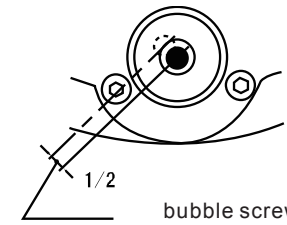

Fig.11
- (II) Using wrench adjust bubble screws to move the bubble to centre. (Fig.11)